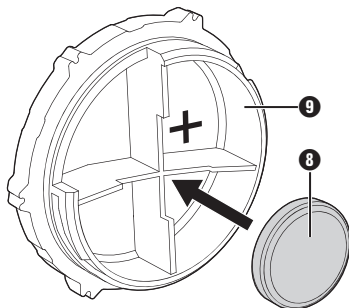

Fig. 1
- ◆ Insert a 3.0 V battery, type CR 2032 **8** into the battery compartment cover **9**. Make sure that the polarity is correct (see fig. 1).